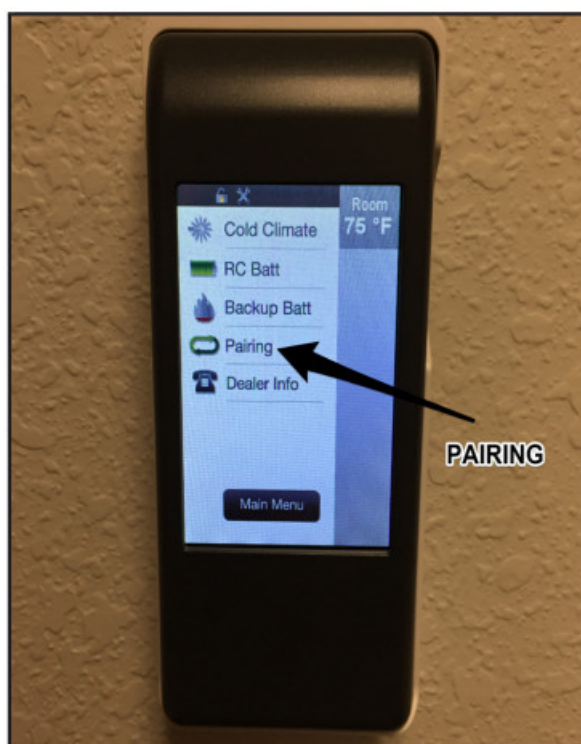

Figure 5 IFT2-RC450 Wall Mount / Pairing Screen
While the green LED on the ECM is blinking, tap anywhere on the gray indicator bar located at the top of the RC450 screen. Tap on the pairing icon as shown in Figure 5. If the RC450 has been paired successfully to the ECM, a double audible “beep” will be heard from the ECM.
5. While the green LED on the ECM is blinking, tap anywhere on the gray indicator bar located at the top of the RC450 screen. Tap on the Pairing icon as shown in Figure 5. Successful pairing will be indicated by a double beep from the ECM.